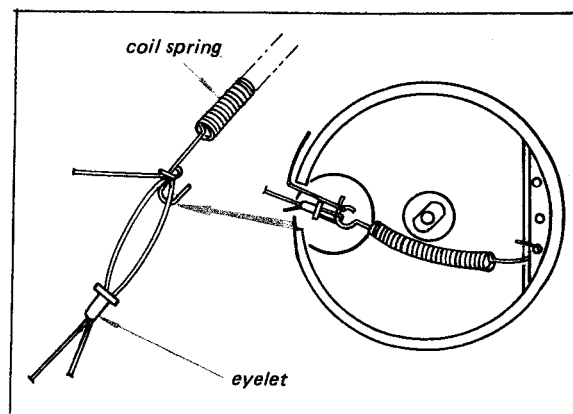

Fig. 2-17 Finish point detail
4. At the finish, tighten the cord, then squeeze the eyelet so that the spring is under tension. See Fig. 2-17. Make a knot in the cord end to keep it from slipping out of the eyelet.